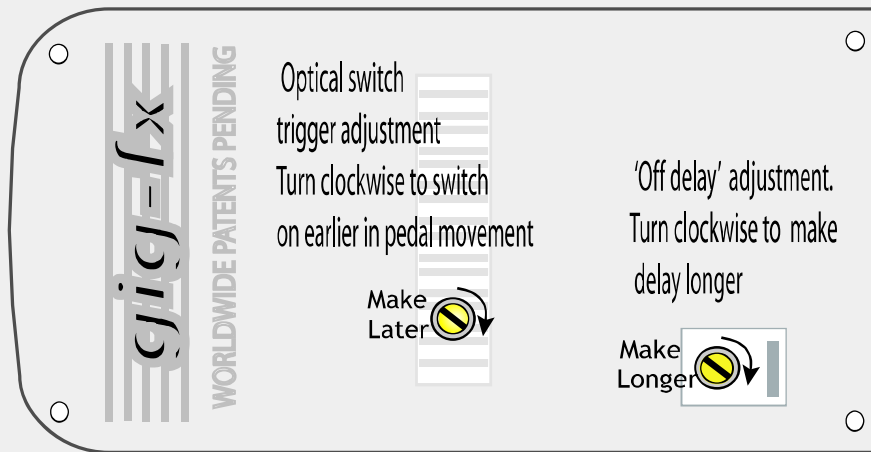
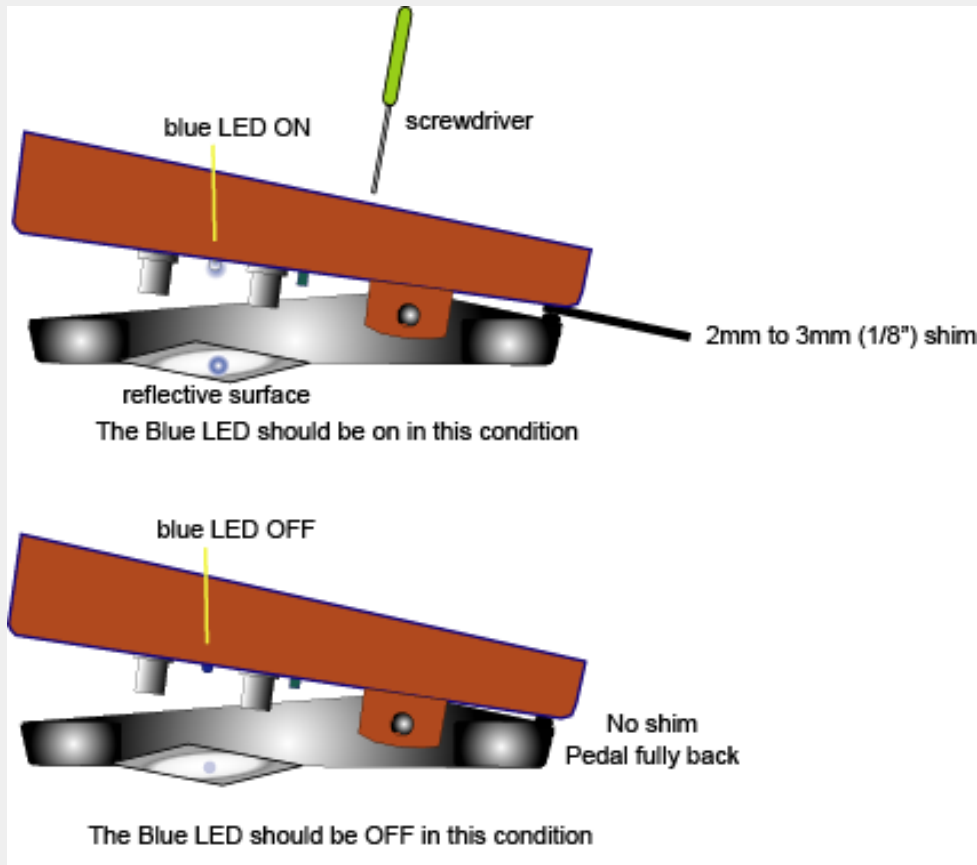

Fig 1
FIG 3
See Fig 1 on the next page.
12. Insert a 2.5mm / one eighth inch shim between the treadle and the base at the back of the pedal as shown in fig 3 below. . If you do not have such a shim, move the pedal so that the transparency is half-way across the face of the LED / detector pair in the optical mechanism (Fig. 1 above). We will call this the 'shim position' even if you do not have a shim.